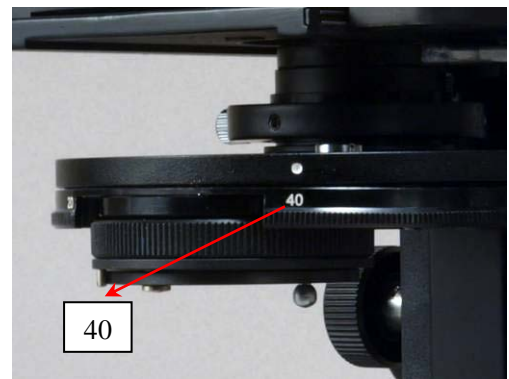

Fig. 10
- 3) Turn the annular ring disk to put the corresponding ring into light path, i.e. if you are using the 40x phase contrast objective, you should turn the disk at 40 as shown in Figure 10.